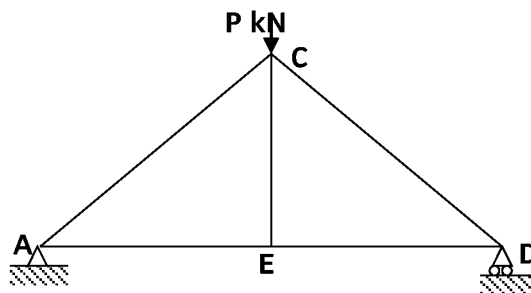

Figure Q3
- d) If the maximum allowable shear stress of shaft BC is 60 MN/m², then calculate the maximum permissible torque (T). [Hint: (Torque/Polar moment) = (Shear stress/Radius)]. (4 marks)
- 3 A plane pin jointed truss given in Figure Q3 is subjected to a vertical load 'P' at joint C. The length of the horizontal members is **1.2 b** and the same for vertical members is **b**. The cross sectional area of horizontal members is **a** mm² and the other members is **2a** mm². The elastic modulus of material is **E**.